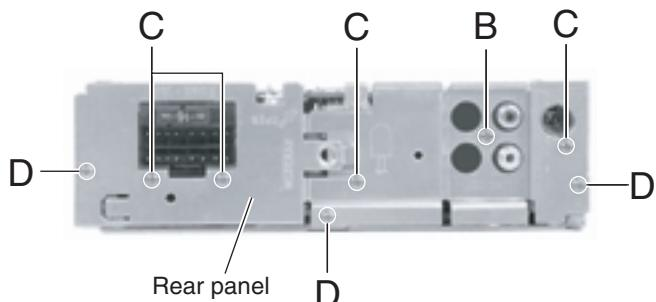

Fig.7
■ Removing the main board (See Fig.7, 8)